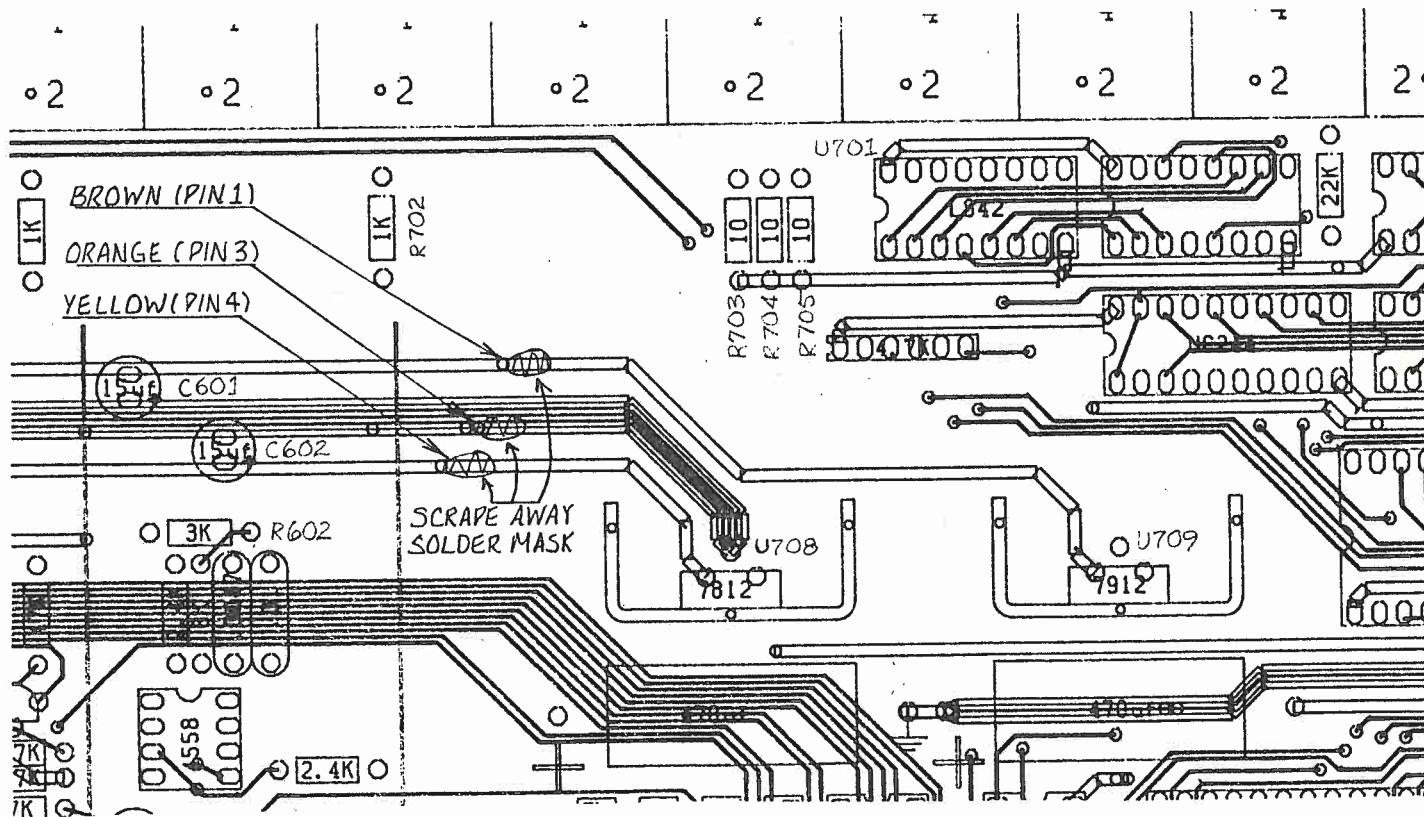

figure11
21. Cable #4 is the power supply for Stretch. It is the Molex cable with 3 colored wires coming out of it. (Connector 'C' on the upper right hand side of the Stretch Processor board). The ends of the wires must be soldered to the DX Processor board to the locations shown in **figure 11** on page 8.
- The Brown wire (pin 1 of connector) is to be soldered to the -12 trace coming from U709. Scrape away some of the solder mask around the feed-through and solder the end of the wire to the exposed surface. See **figure11**.
- The Orange wire (pin 3 of connector) is to be soldered to the ground trace coming from center pin of U708. See **figure 11**. Scrape away some of the solder mask around the feed-through as shown in the figure, and solder to the exposed trace.
and the + side of C602. Once again, scrape away some of the solder mask around the feed-through and solder the end of the wire to the exposed surface. See **figure 11**.